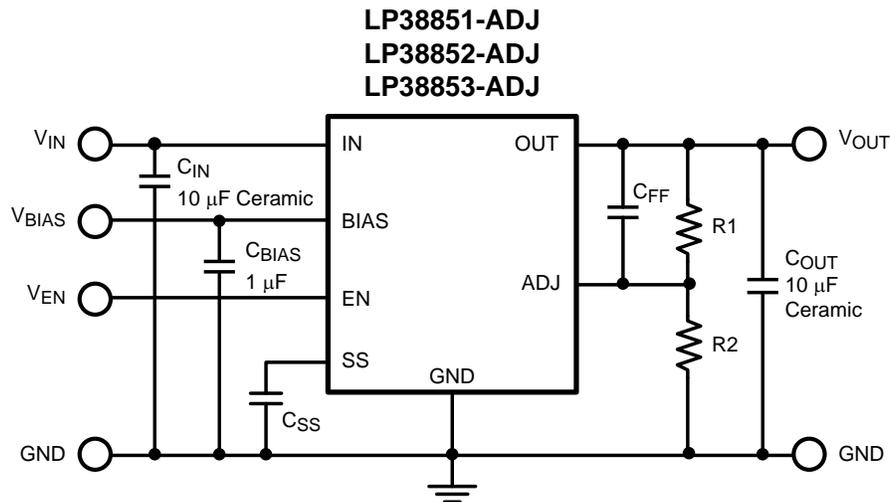

Figure 2. LP38851/52/53-ADJ Typical Application
Figure 2 shows a typical application schematic of the LP38853-ADJ. Note the C_{SS} capacitor is connected to the (SS) soft-start pin. Next, the start up behavior will be compared without utilizing the soft-start feature versus start up behavior with a 0.01 μF capacitor for C_{SS} .